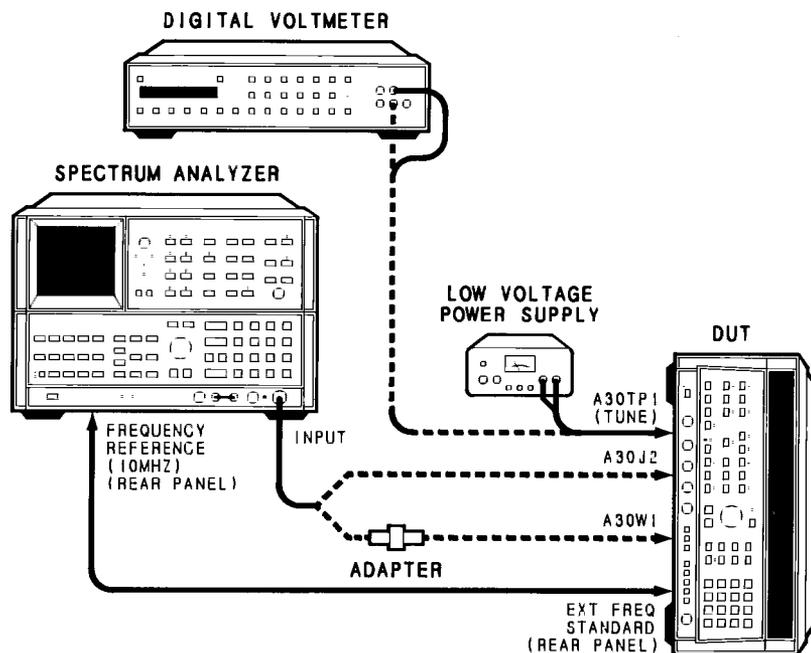

Figure 5-5 100 MHz VCXO Adjustment Setup
1. Position DUT into the Test Position as shown in Figure 5-5 with the bottom cover removed. On the DUT's rear panel, disconnect the BNC cable connected between INT and EXT Frequency Standard connectors, set INT/EXT switch to EXT, then connect a BNC cable from EXT connector to Spectrum Analyzer's Frequency Reference (10 MHz) rear-panel connector. Allow the test equipment to warm up for one-half hour.